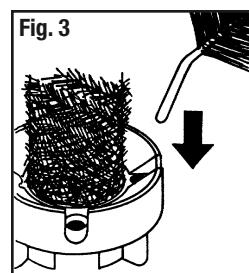

Fig. 3
3. After all bottom bracket branches are properly shaped they can be attached to the center pole brackets. Gently push each branch down into the bracket slots until they lock into place (Figure 3).